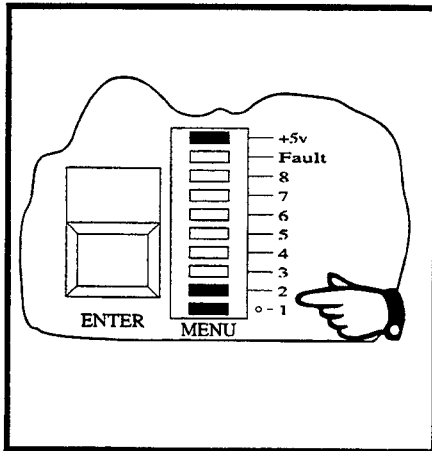

Figure 3-14
- (c) Press the blue **FUNCTION** key **ONCE**. The auto-zero fault indication on the **Menu** display should disappear and the segment labelled **1** should illuminate. Continue to press the **FUNCTION** key until the segments labelled **1** and **2** are illuminated simultaneously. This combination of segments identifies the auto-zero fault resetting function. See Figure 3-14.